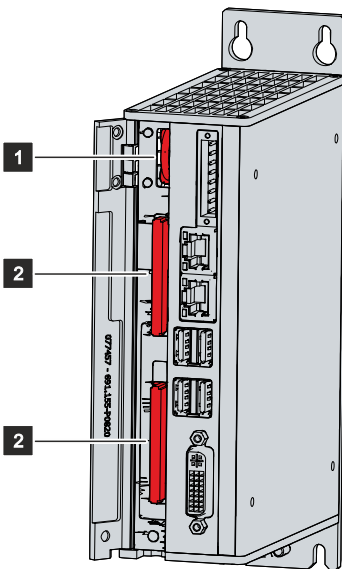

Fig. 18: Battery and storage media
You now have access to the battery (1) and storage media (2) (see fig. 18).